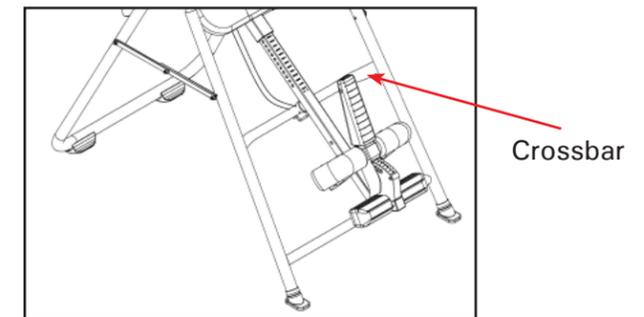

Figure 11
- The Main Shaft must rest against the crossbar of the A-frame (Figure 11). The crossbar prevents the table from rotating forward when the user steps on the Foot Platform. If the Main Shaft does not rest on the Crossbar as shown in Figure 11 then the Table Bed has been assembled backwards onto the A-frame and this must be corrected before use.